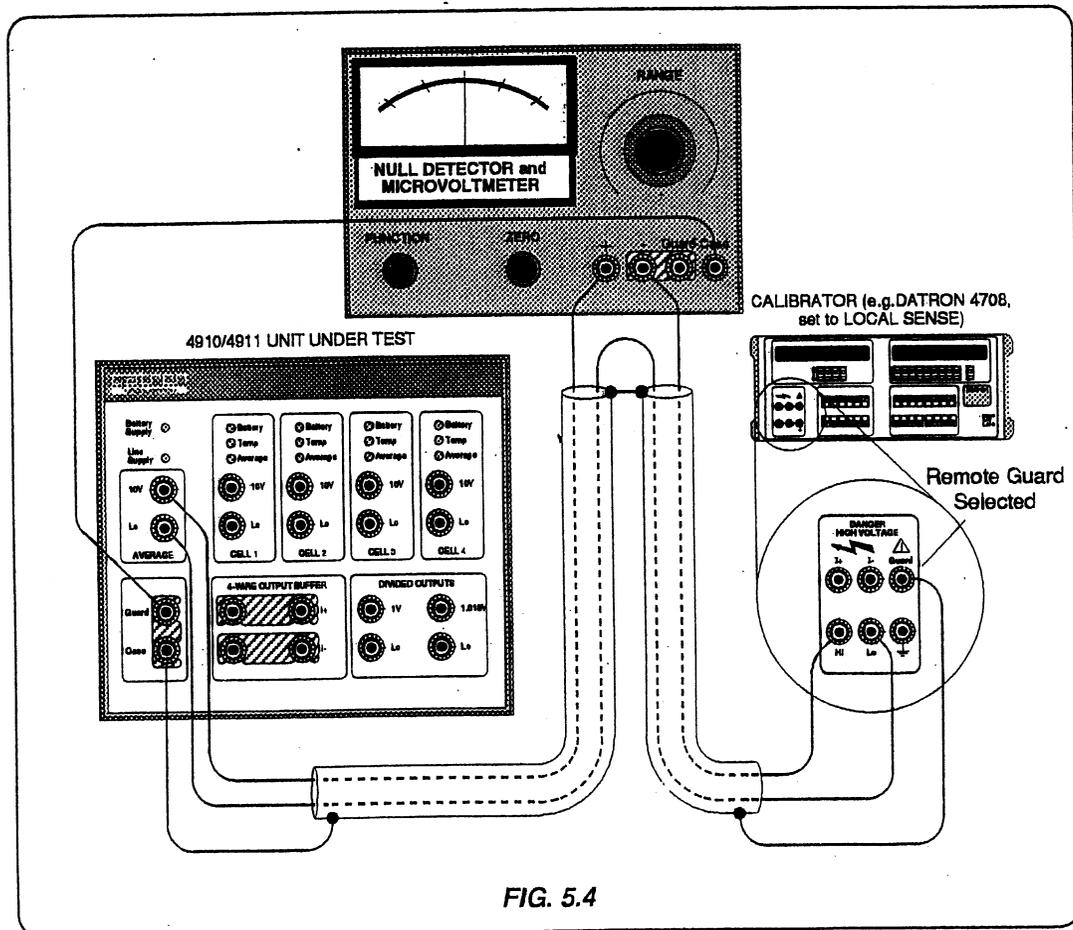

FIG. 5.4
10. Connect the null detector to the 4910 and the 4708 calibrator as shown in Fig 5.4.